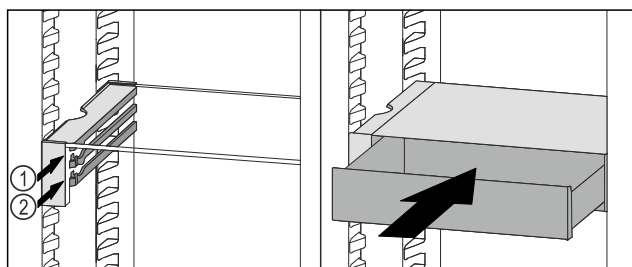

Fig. 121
- Place the VarioSafe drawer behind the stoppers on desired rib Fig. 121 (1) or Fig. 121 (2).